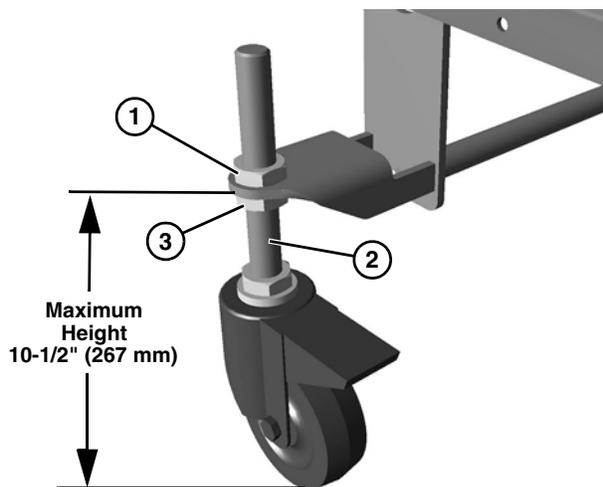

Figure 19
1. Loosen the upper nut (Figure 19, item 1) on the caster stem (Figure 19, item 2).
2. Rotate the lower nut up or down (Figure 19, item 3) to raise or lower the stand to the desired height.
5. Tighten the upper nut (Figure 19, item 1) on the caster stem (Figure 19, item 2) to secure each foot assembly.